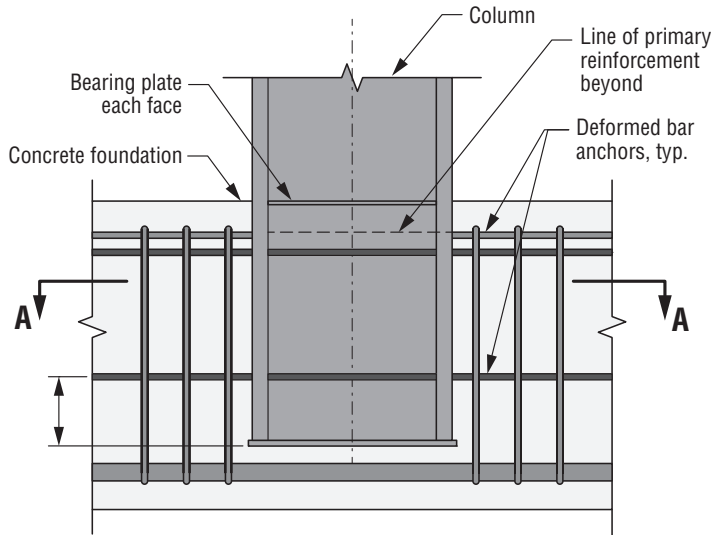
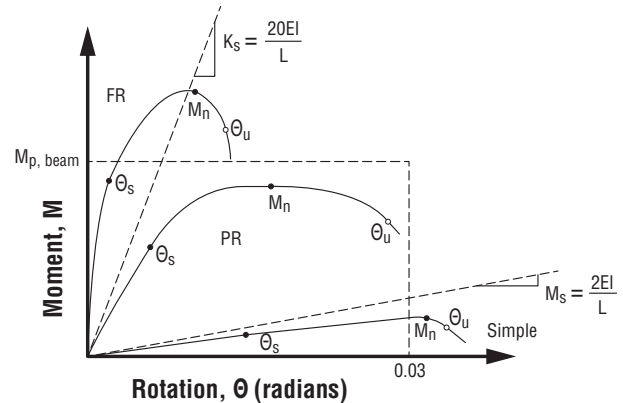
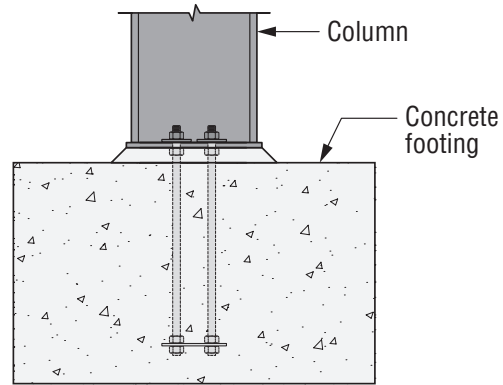

Figure D7.1 — Fixed-Base (FR) Connection in AISC Seismic Design Manual
Figure D7.2 — Connection Classification per AISC 360-10
Figure D7.4 — Pinned-Base (Simple) Connection in AISC Design Guide #1
Column base fixity has a considerable effect on the performance of moment frames. Currently, engineers assume either a fixed-base connection (Figure D7.1) or a pinned-base connection (Figure D7.4) in the analysis of moment frames. In reality, the performance of the connection is in between the two limits. Figure D7.2 shows the AISC definition of a fixed, a pinned and a partially restrained (PR) connection in a graphical format. Connections are considered fixed when the moment vs. rotation stiffness is greater than $20 EI/L$ of the member, whereas a connection is considered pinned (simple) when the stiffness value is less than $2 EI/L$.